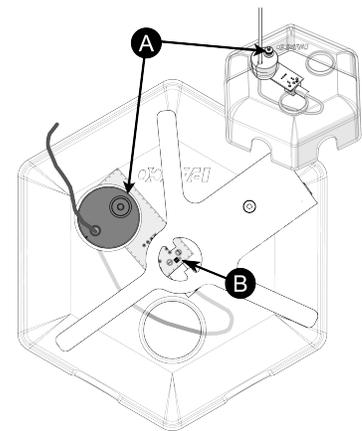

Figure 3. Light sensor centered on lid
7. Refer to Figure 3 as you complete the following:
NOTE: The light sensor and Grow Light must stay centered in the same position throughout the investigation (see Figure 3). If either component moves, carefully adjust positions until the brightness reading at full intensity equals the brightness recorded in step 4.